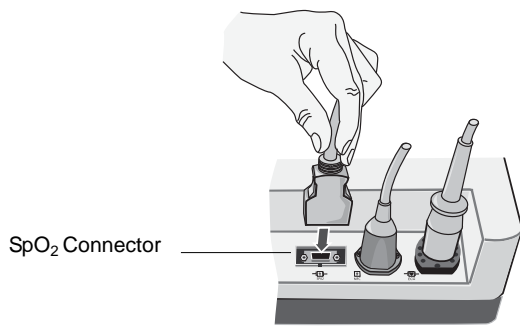

Figure 2
4. Connect the patient cable to the SpO₂ connector at the back of the E Series unit (see Figure 2).
- Connect the SpO₂ patient cable to the SpO₂ connector on the back of the E Series unit as shown in Figure 2 on page 4.
8. Connect the SpO₂ patient cable to the SpO₂ connector on the back of the E Series unit as shown in Figure 2 on page 4.